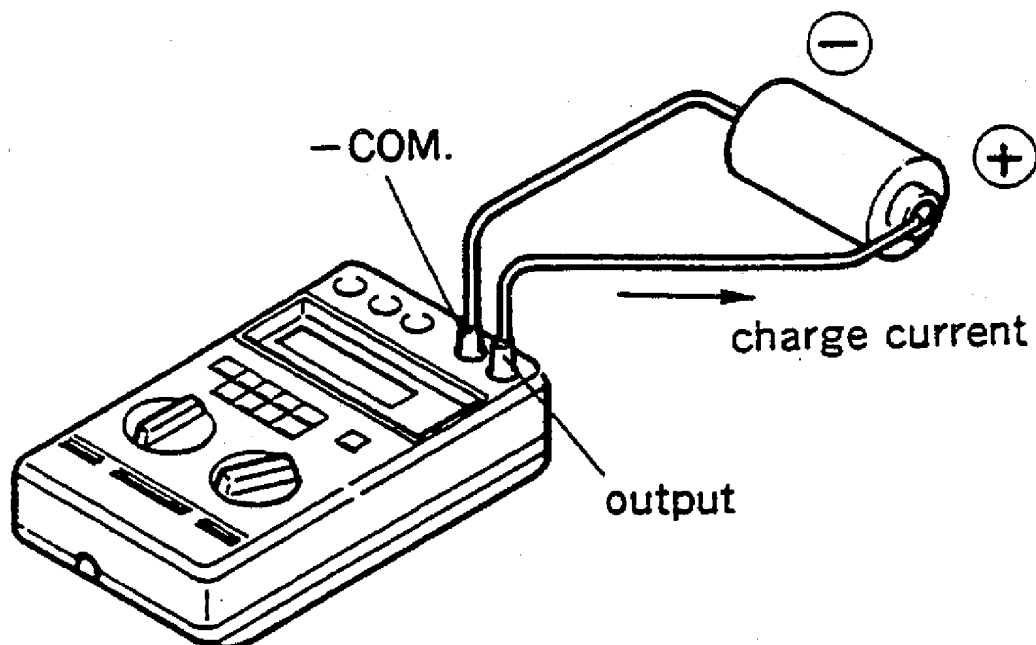

Fig. 8
- (1) Set the function switch to CV, and connect the battery as shown in Fig. 8.